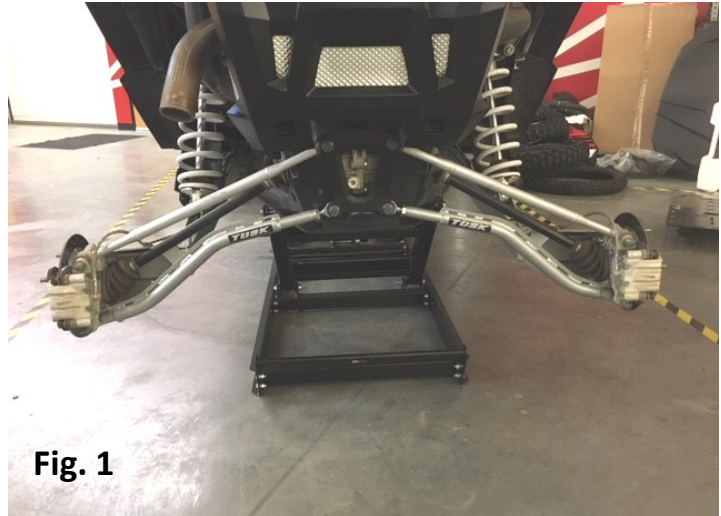

Fig. 1
1. Jack-up and support the vehicle's chassis so the rear suspension can hang freely and remove rear wheels/tires (Fig. 1). **NOTE: Both Upper Radius Rods can be removed and replaced simultaneously if desired. However, these instructions will focus only on the driver-side, start-to-finish. Simply apply the same steps for the passenger-side Upper Radius Rod, making sure that any hardware removed and replaced are torqued to the OEM specs given.**